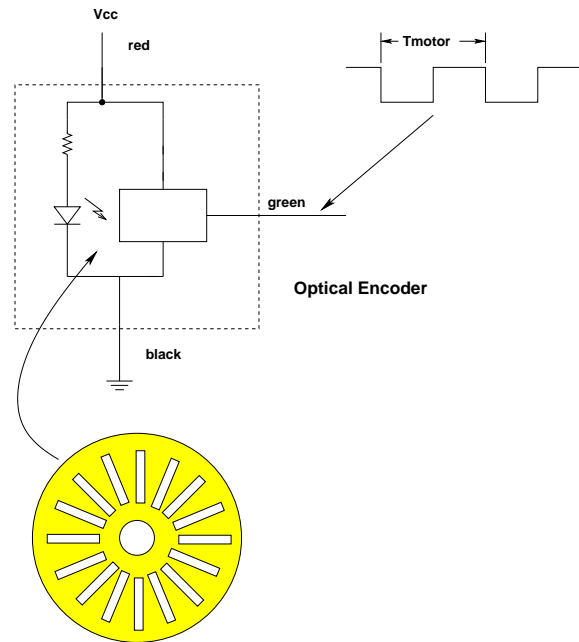

Figure 2: Optical encoder which generates 500 pulses per revolution of the motor.
To make a motor turn at a desired speed it is necessary to know how fast the motor is turning. The motors you will use in this lab have encoders which will generate 500 pulses in a single revolution of the motor. The encoder works as shown in Figure 2. A light emitting diode (LED) sends light through a slotted wheel attached to the shaft of the motor. An optical sensor is used to detect the light. When the light shines through a slot and hits the sensor, the output of the optical sensor is  $V_{CC}$ , a digital 1. When the slotted wheel blocks the light from reaching the sensor, the voltage goes to 0 V, a digital 0. Using this optical encoder you will be able to measure the speed of the motor.
2. Program your HC12 to generate a PWM frequency of 5 kHz, with an active low PWM signal with a duty cycle of 50%. Connect the circuit shown in Figure 2. Look at the output of the optical sensor with a logic analyzer. Verify that the optical sensor is working, and record the period of the signal coming out of the optical encoder. What is the speed at which the motor is turning?